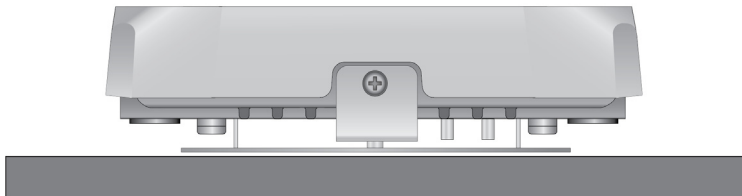

Figure 7. Approved and Unapproved Orientations on a Ceiling, Wall, or Table
- ❑ Refer to Figure 7 on page 22 for approved and unapproved orientations of the wireless access point on a table, wall, or ceiling.
1. Choose the location and orientation for the access point on the wall or ceiling. Refer to Figure 7 on page 22.